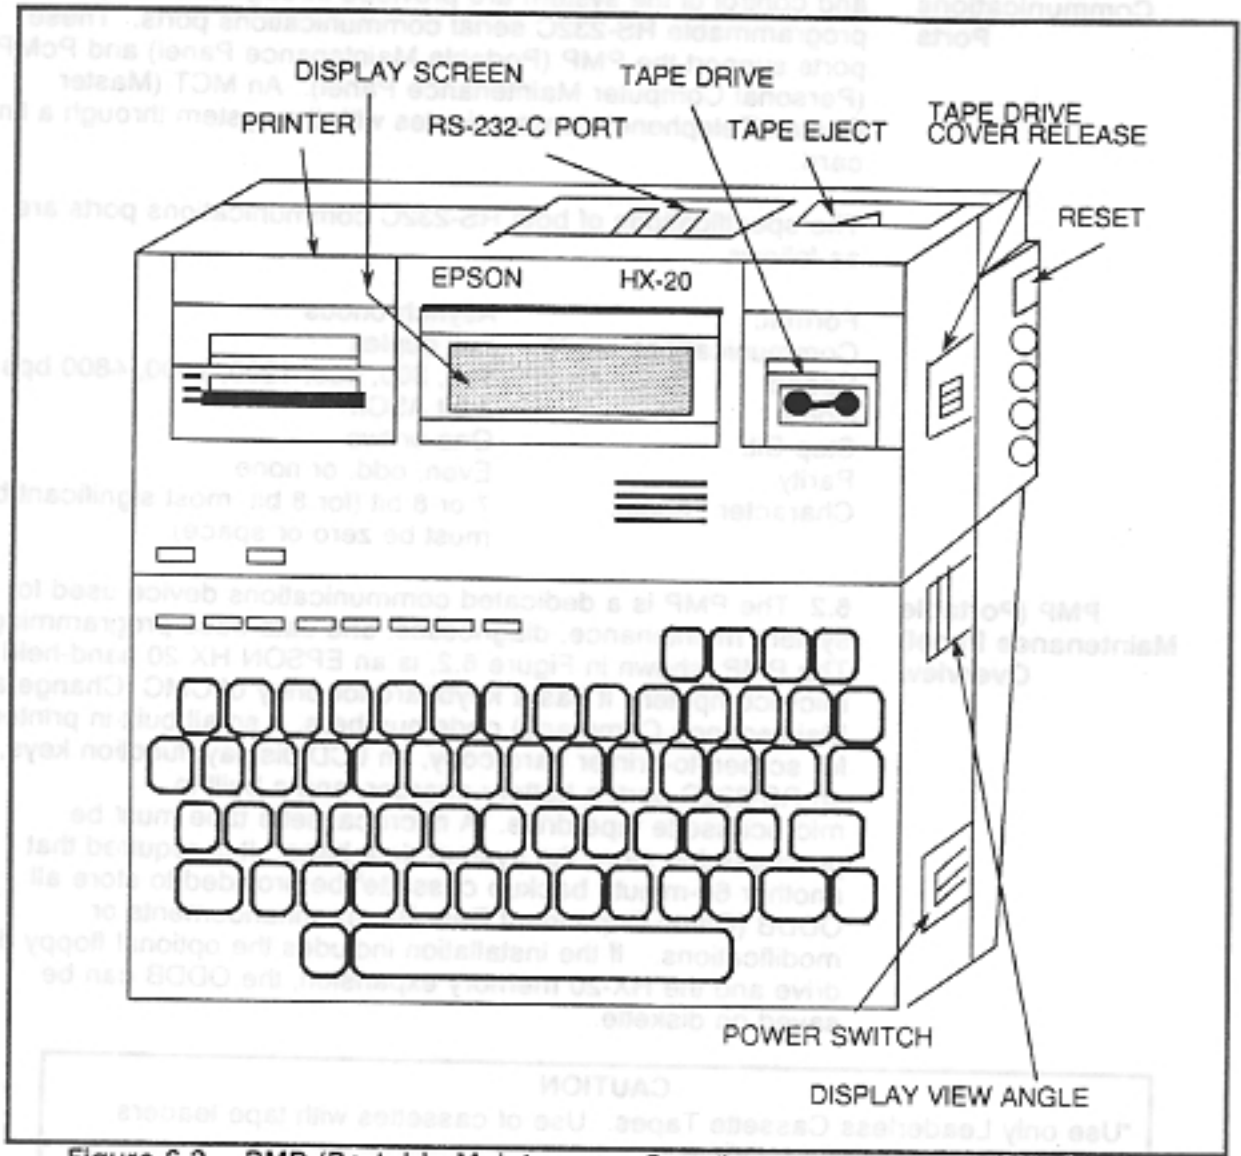

Figure 6.2 PMP (Portable Maintenance Panel) - Epson HX-20 Hand-Held Computer
6.2 The PMP is a dedicated communications device used for system maintenance, diagnostics, and data base programming. The PMP, shown in Figure 6.2, is an EPSON HX-20 hand-held microcomputer. It has a keyboard for entry of CMC (Change and Maintenance Command) code numbers, a small built-in printer for screen-to-printer hard copy, an LCD display, function keys, an RS-232C port, a battery charger, and a built-in microcassette tape drive. A microcassette tape must be purchased to store the system data base. It is required that another 60-minute backup cassette* be provided to store all ODDB (Office Dependent Data Base) enhancements or modifications. If the installation includes the optional floppy disk drive and the HX-20 memory expansion, the ODDB can be saved on diskette.